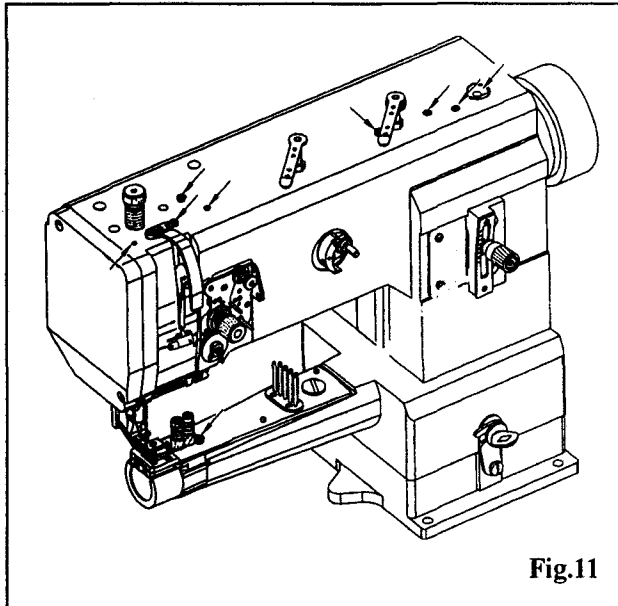
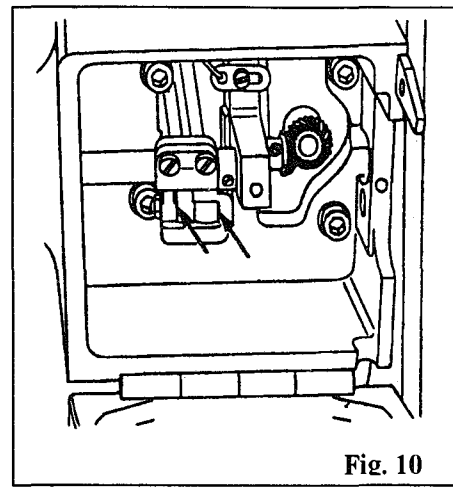

Fig.11
Fig. 10
- ① Clean the rotating hook and rotating hook area daily, more often with constant use.
- ② Bring the needle bar to its highest position and remove the free arm cap.
- ③ Take out the bobbin capsule and bobbin.
- ④ Unscrew capsule holder piece.
- ⑤ Take out screw and lift up the rotating hook handle.
- ⑥ Turn the balance wheel until point stands at the same height as rotating hook point .
- ⑦ Take out the lower capsule and clean the rotating hook path with petroleum.
- ⑧ Put it back together in reverse order of the above. Make sure that the nose on the back of the capsule holder piece meshes with groove.
- ⑨ Unscrew rotating hook handle and put in the bobbin capsule with bobbin.
- ⑩ Draw back the free arm cap.
3) GENERAL OILING (Fig.10, Fig.11)
Oil all the bearing positions shown in Fig 10 and 11 twice weekly.